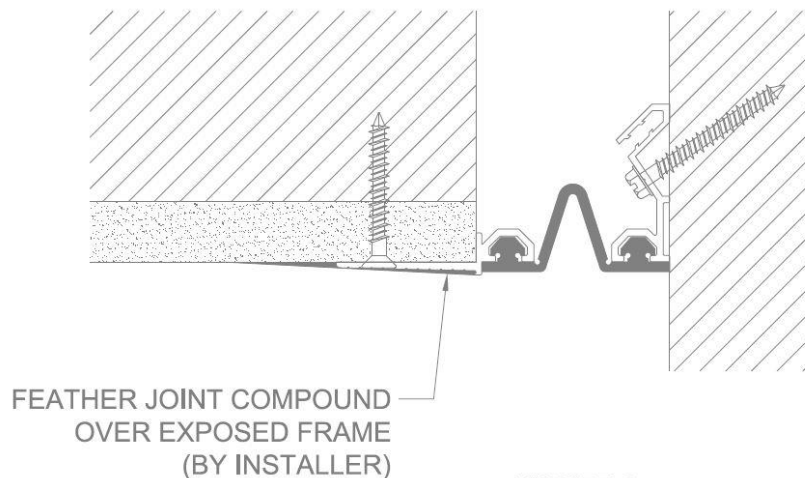

FIGURE 6
3. Protect the elastomeric seal with tape and feather joint compound (by others) over the exposed aluminum frames and onto the gypsum wallboard. Remove tape after wall or ceiling has been finished. **See Figure 6.**
Insert splice clips (if required) (part # 28091) halfway into the alignment holes on one of the seals. Apply glue, cyanoacrylate or similar adhesive (by others) to both seal ends and follow instructions by the adhesive manufacturer. Almost immediately after adhesive is applied, insert the protruding ends of the splice clips into the ends of the two seals together, applying uniform pressure for at least two minutes while maintaining contact between both sides. The splice clip is not necessary, but is recommended, especially on larger sized seals. **See Figure 6**